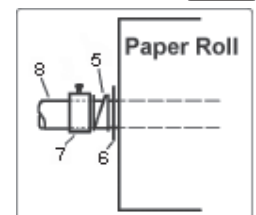

fig.2
- 4.12. Fit paper washers (6), cutting blade spring (10) and paper holding spring (5) to paper bar (8) as shown in fig.2.
- 5.3. Replace washers (6), springs (5) and paper holding rings as shown in fig.2, at each end of roll.